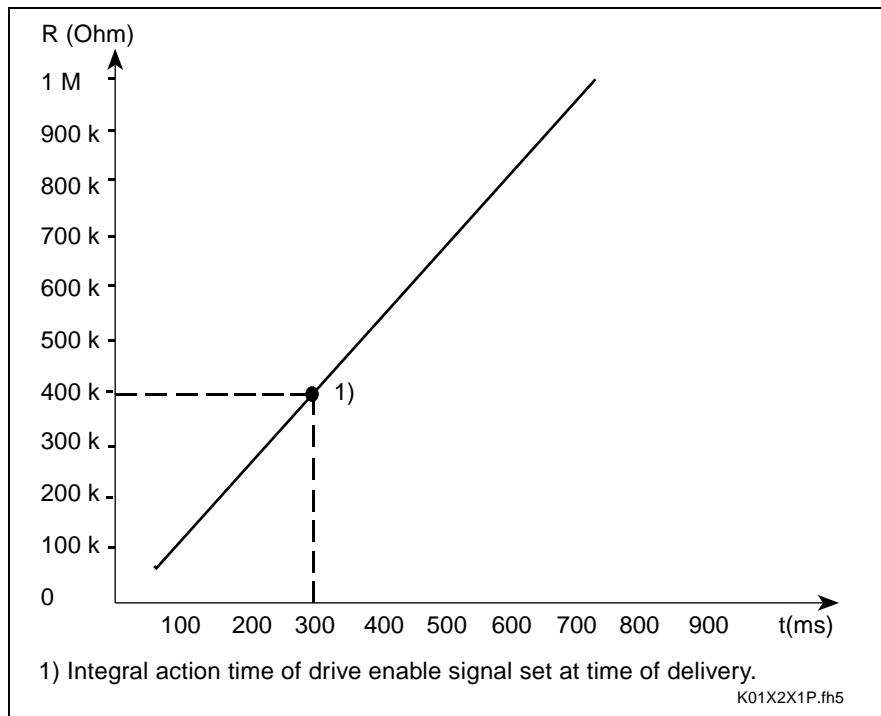

Fig. 24-7: Setting resistor R5 to the OFF delay drive enable signal
1. find resistance listed in Fig. 24-7